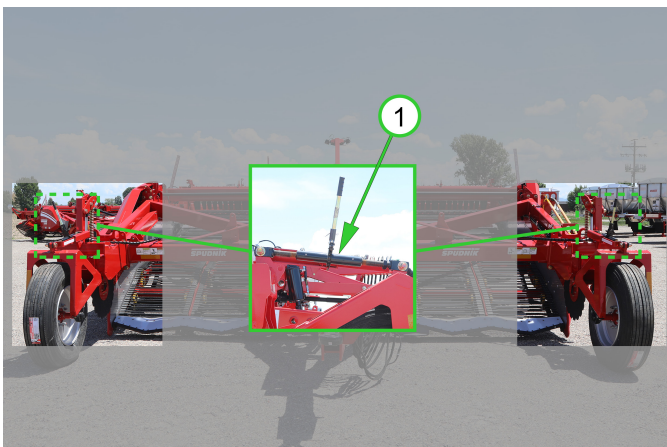

Figure 35
For manual control. Use the (1) LH/RH ratchet jack to raise/lower the Depth Wheel which raises/lowers the digger nose. Count the threads or measure the ratchet jack spread to set to the LH/RH Depth Wheels to the same position. (See Figure 35)